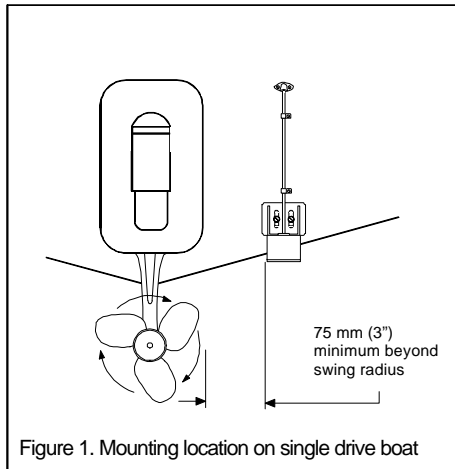

Figure 1. Mounting location on single drive boat
- **Single drive boat:** Mount the transducer on the side of the boat where the propeller is rotating downward at least 75 mm (3") beyond the swing radius of the propeller (see Figure 1).